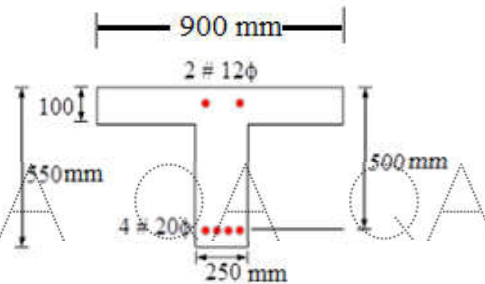

Figure 2
4. Design the shear reinforcement for a T-beam and slab system with beams spaced at 3 m center to center and a clear span of 6 m, supported by 300 mm brick walls. The T-beam (as shown in figure 2 - dimensions are in mm) carries a live load of 4 kN/m and is reinforced with four 20 mm diameter bars as longitudinal tension steel. Also, design the beam for a shear of 150 kN using M30 concrete and Fe-415 steel grade. [12]